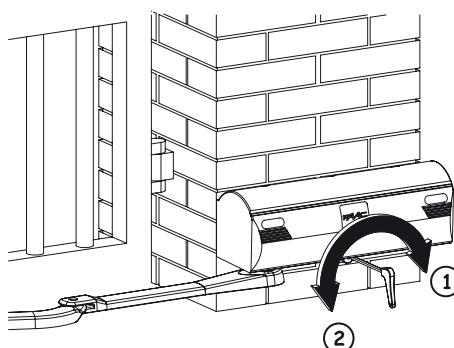

Fig. 1
- Fit the supplied Allen wrench and turn it by about a half turn until it stops, in the direction shown in Fig. 1, depending on type of installation.